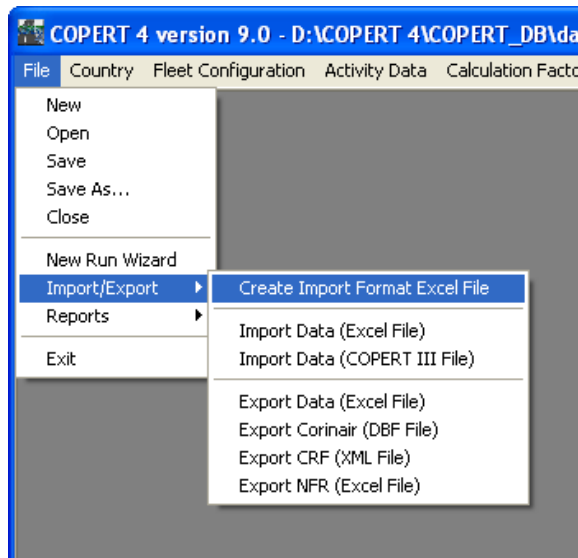

Figure 5 – Creating an Import format Excel file
- Select 'File', 'Import/Export', 'Create Import Format Excel File' (Figure 5)